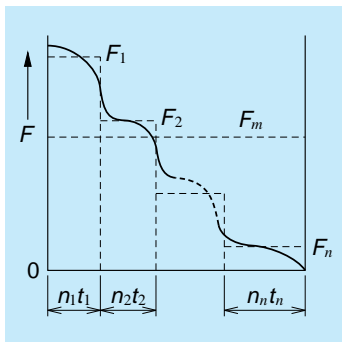

Fig. II-5-1 Load varies by phase
1. When load and rotational speed shift by phase (Fig. II-5-1)